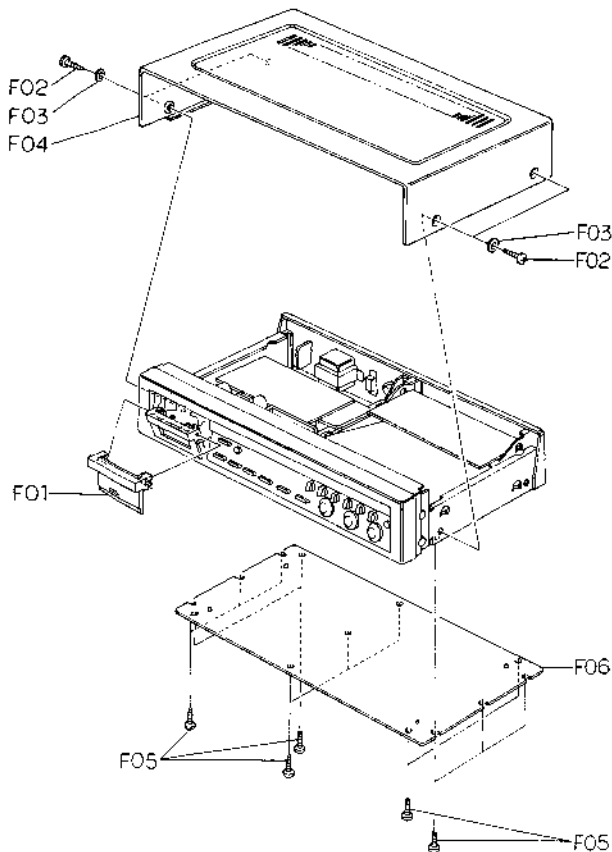

Fig. 2.1.1 Serial No.: A12102102 –
Refer to Figs. 2.1.1 and 2.1.2.
Refer to Figs 2.1.1 and 2.1.2.
- (1) Refer to Figs. 2.1.1 and 2.1.2. Remove Top Cover Ass'y and Bottom Cover Ass'y referring to items 2.2 and 2.3.
- (2) Remove F01 (Volume Knobs) by pushing with a screwdriver or similar tools from the inside of the N-582Z.
- (3) Remove F02 (Switch Knobs) and F03, then disassem-
- (1) Refer to Fig. 2.1.1. Remove Front Panel Ass'y referring to item 2.4.
- (2) Remove F03, then disassemble F04 (Dolby NR P.C.B. Ass'y).